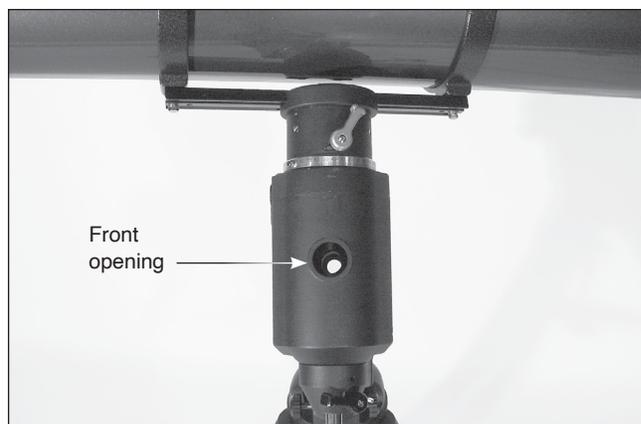

Figure 14. Rotate the declination axis until the hole in the declination shaft lines up with the front opening of the housing.
1. Loosen the Dec. clutch lever and rotate the optical tube about the declination axis until you have a clear view through the polar axis finder scope (**Figure 14**). Tighten the Dec. clutch lever.
3. Loosen the Dec. clutch lever and rotate the optical tube until the hole in the Dec. shaft lines up with the front opening of the housing (**Figure 14**), and you have a clear, unobstructed view through the polar scope. Then retighten the Dec. clutch lever.